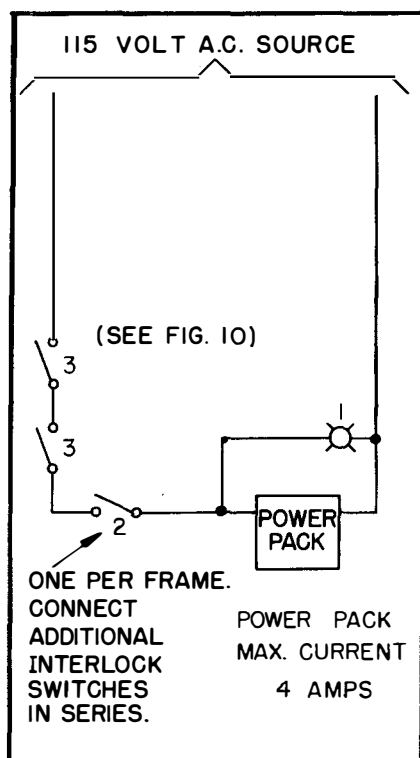

Fig. 13. Low Voltage Schematic Wiring Diagram
Mount the interlock switches as shown in Figs. 10 & 12. Wire the switches as shown in Fig. 13.
**Location and Correction of Electrical Faults.** Electrical faults can usually be found by careful inspection. Wiring diagrams (Figs. 13 & 14) should be helpful in analyzing possible troubles. Common faults and probable causes are shown in Table No. 1. These points should be checked first before attempting the more difficult process of elimination. If a high voltage short circuit cannot be located by inspection, disconnect the cell and ionizer cables at the power pack terminals (see CAUTION, page 12). Close power pack door and turn on the circuit breaker. Continued glowing of the short circuit light indicates that the